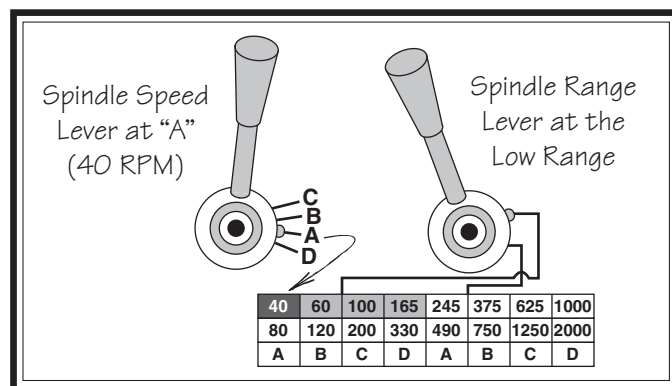

Figure 75. Setting the spindle speed at 40 RPM.
3. Move the spindle range lever so that the indicator points to the upper line (see the illustration in **Figure 75**). This will make the first four or lower speeds in the top row of the chart available.